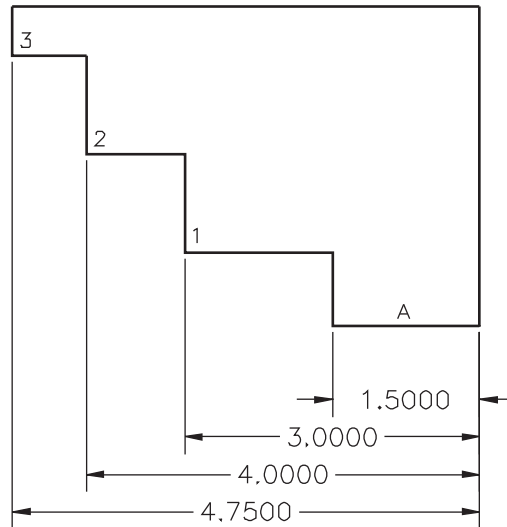

Fig. 27-4
**Baseline dimensions** are progressive, each starting at the same place, as shown in Fig. 27-4. Baseline dimensioning is most useful on machine drawings, on which precision is critical. Measuring from a single reference dimension reduces the chance of errors that can accumulate from a “stack” of dimensions.
3. Erase the drawing and dimensions and create the sheet-metal drawing shown in Fig. 27-4. Place the part on layer **Objects**. Fill the top half of the screen, and estimate the dimensions.